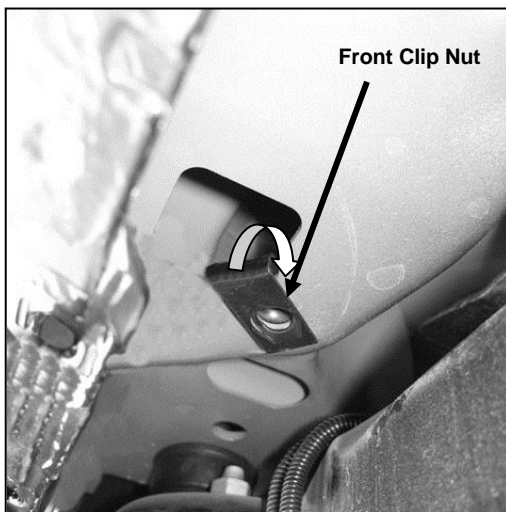

Figure 1
2. From underside of vehicle, locate the two front factory holes on the driver side floor panel located by the front tire. With the threaded nut facing up, insert (1) 10mm Clip Nut through larger hole. Orient Clip Nut to engage into the smaller hole (**Figure 1**).